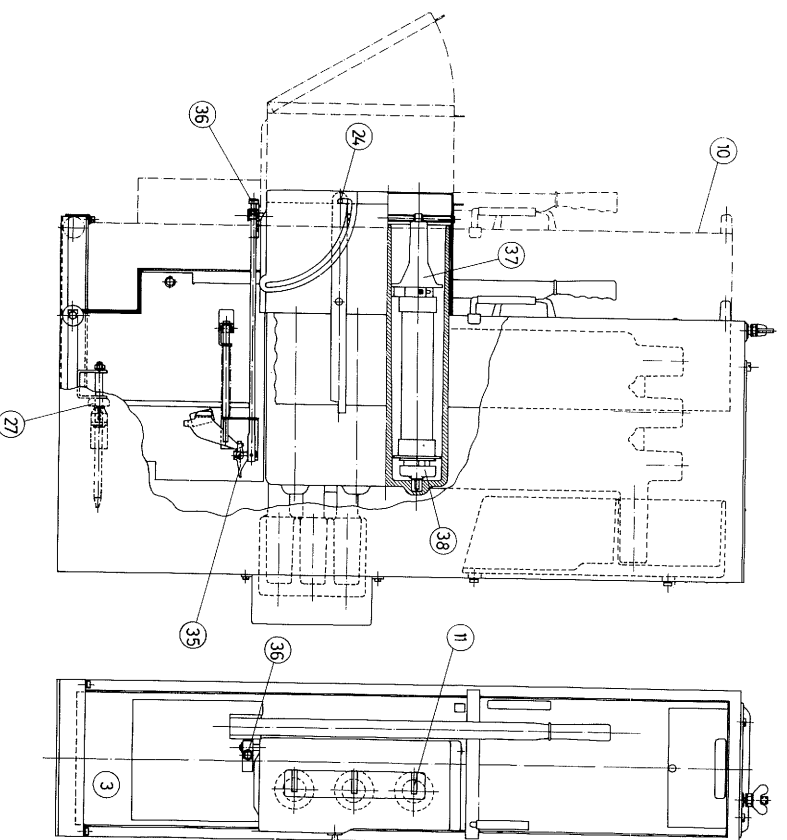
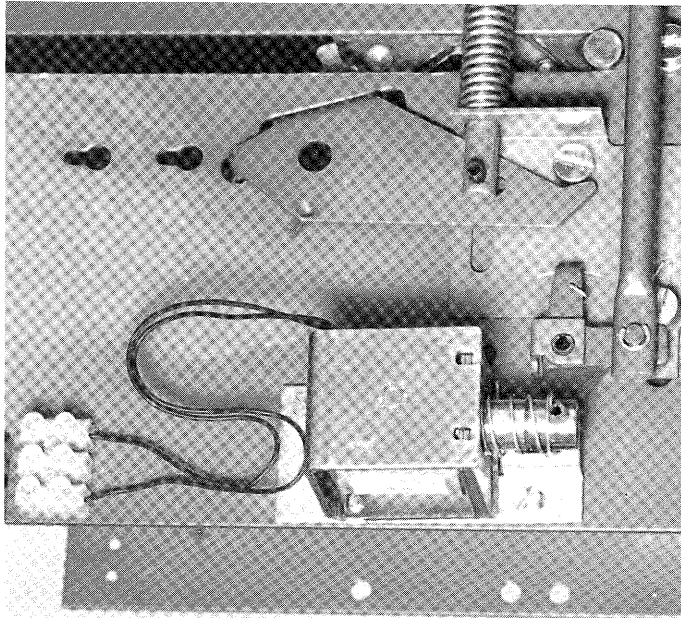

Fig. 5
Fig. 13
Magnetic release (Fig. 13) for work current may be supplied for all prevalent d.c. and a.c. voltages, and is connected to the spring operated tripping device, Fig. 5 (35).